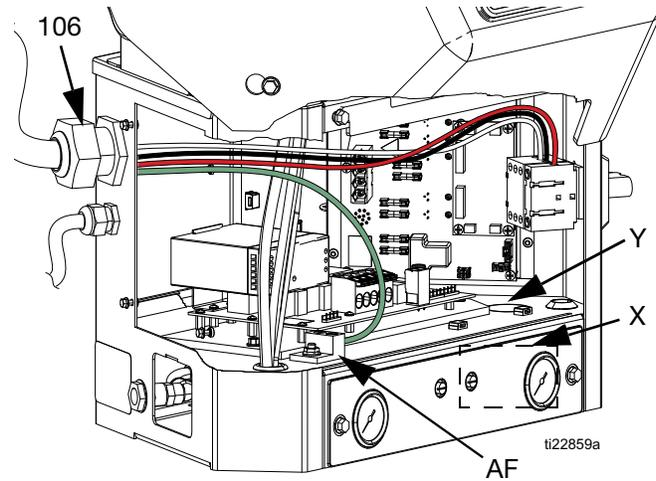

FIG. 13
The installed strain relief bushing (106) fits a 0.708-1.260 in. (18-32 mm) OD electrical cord. See FIG. 13. If needed, use a wrench to tighten the strain relief bushing until it is snug on the cable.
4. Insert electrical cord through electrical enclosure strain relief bushing (106). See FIG. 13.
- a. Alternate electrical cord routing: using conduit, run electrical cord from access port (X) through hole (Y). Conduit is required when routing wires near compressed air components.
6. Connect ground wire to chassis ground (AF). See FIG. 13.